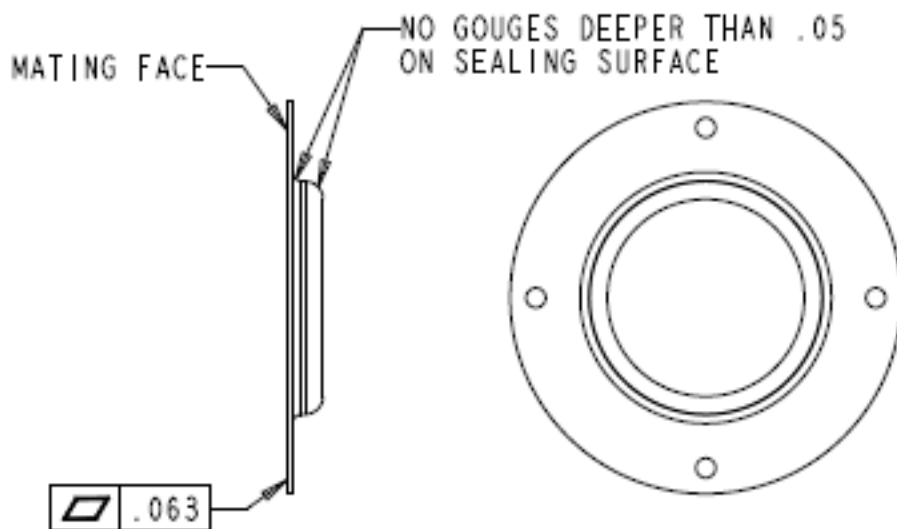

Figure 5. Air Actuator Plate Condemning Limits
- 7.6.1 Flatness of mating face may not exceed  $.063$ ", see Figure 5. If flatness of mating face exceeds  $.063$ ", the part must be replaced.
- 7.6.2 Scrapes or gouges on the sealing surface must not exceed  $.05$ " deep, see Figure 5. If scrapes or gouges exceed  $.05$ " deep on the sealing surface, the part must be replaced.
- 7.6.3 Any oxidation and/or loose paint must be removed from the sealing surface, see Figure 5.